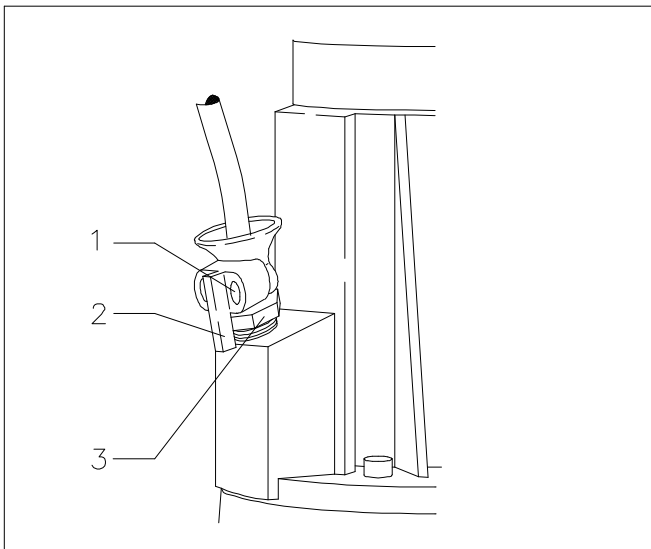

Fig. 7.1
Unscrew the 2 hexagon socket screws (1). See fig. 7.1. Remove the cable clamp (2).